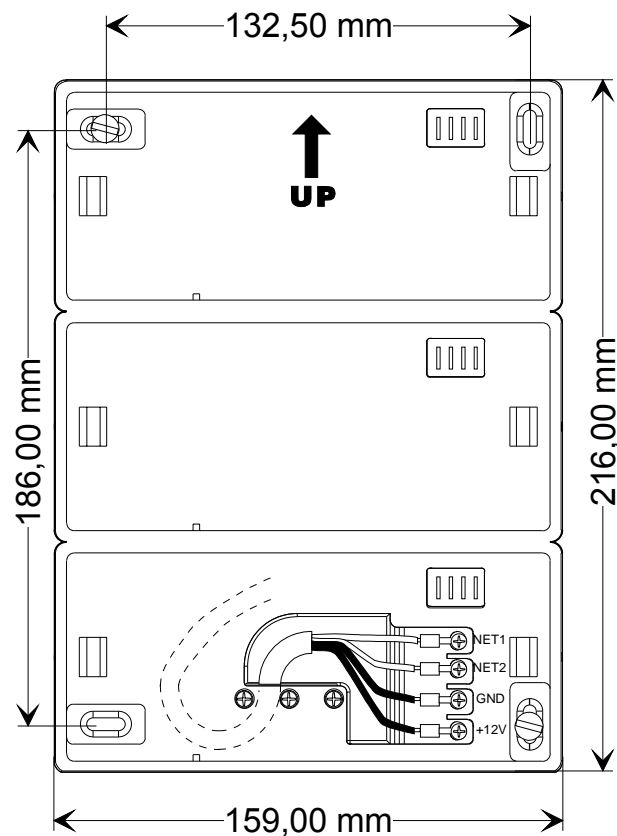

Figure 5. Wall Position – Horizontal Position (Triple Module)
5. Fasten the cable crimp to the contacts in the direction shown in Figure 5.